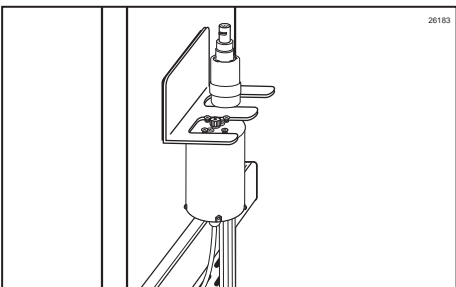

Figure 27
2. Slide the Drive Motor onto the Accessory Hanging Bracket. (See Figure 27.)